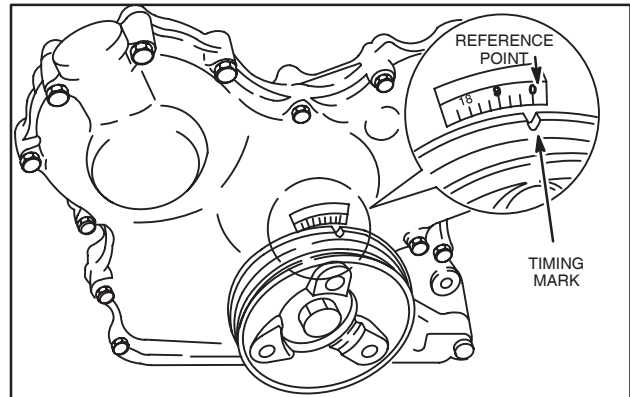

Fig. 6 – Set Cylinder No. 1 At TDC
2. Set No. 1 piston at TDC, Fig. 6: